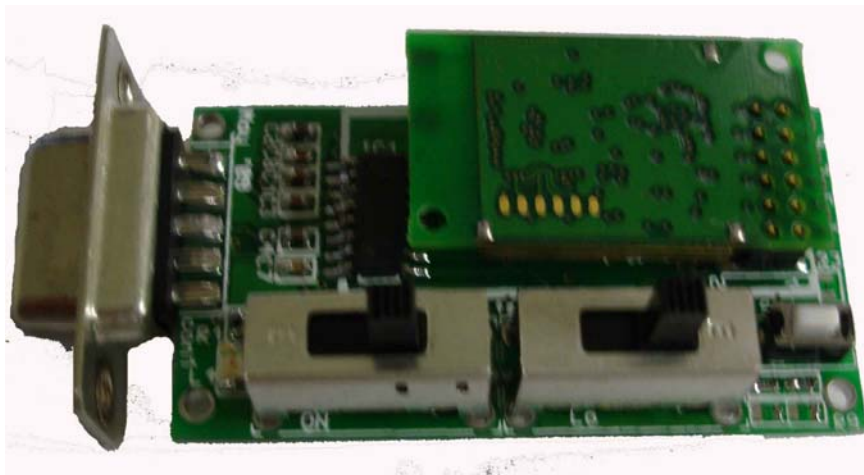

Figure 5.1 BT44-191C connection orientations
STEP1: Connect the PC adapter board as shown in Figure 5.1. Note the orientation of the PCB. Please check that the connectors are aligned properly. **!!!!CONNECTING THE BT44-191C IN THE REVERSE MANNER MAY DAMAGETHE MODULE.**
STEP5: Turn on the Evaluation board by sliding power switch S1 to the left when viewing the assembly shown in Figure 5.1 above. Note a RED LED next to the switch should illuminate.